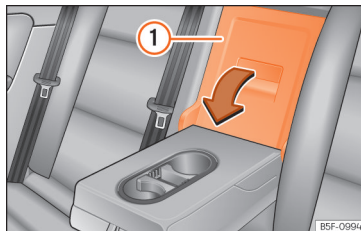

Fig. 136 In the rear seat backrest: opening the trapdoor.
- Pull the release lever in the direction of the arrow and push the tailboard cover »» Fig. 136 ① down and forwards.